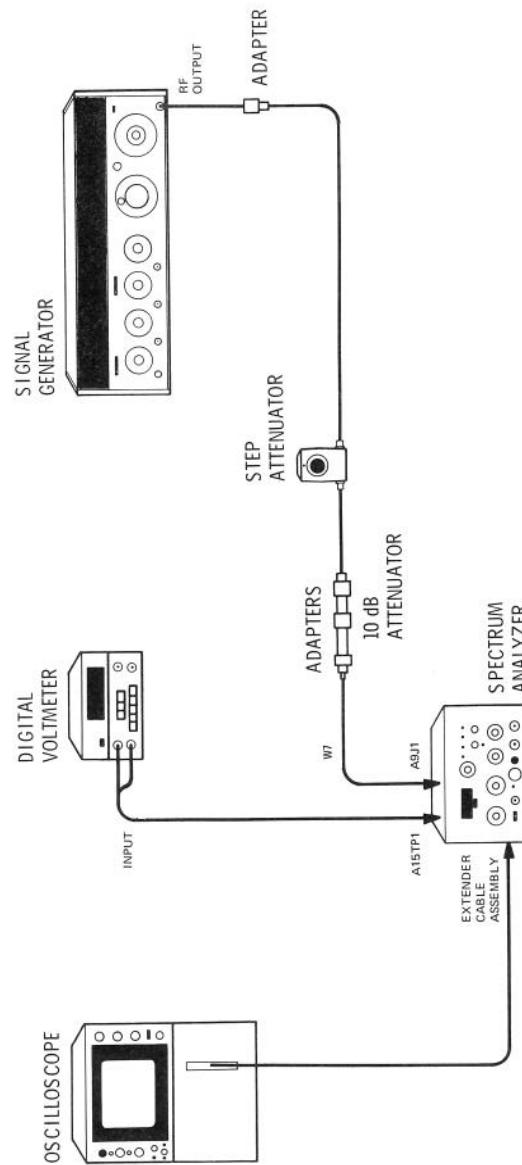

FIGURE 7-4. LOG AMPLIFIER ADJUSTMENT TEST SETUP (2142A & BELOW)
- Connect equipment as shown in Figure 7-4. Set signal generator frequency to 301.4 MHz and output level to -13 dBm. Remove W7P1 from Second IF assembly A10J2. Connect signal generator output through step attenuator, 10 dB attenuator, and adapters to W7P1.